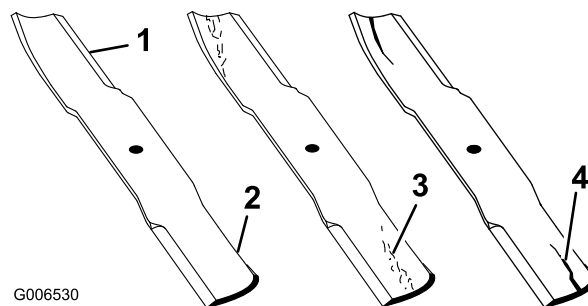

Figure 33
2. Examine the cutting ends of the blade carefully, especially where the flat and curved parts of the blade meet (Figure 33). Since sand and abrasive material can wear away the metal that connects the flat and curved parts of the blade, check the blade before using the machine. If wear is noticed (Figure 33), replace the blade; refer to Removing the Cutting Blade.
If the blade is allowed to wear, a slot will form between the sail and flat part of the blade (Figure 33). Eventually, a piece of the blade may break off and be thrown from under the housing, possibly resulting in serious injury to yourself or bystanders.